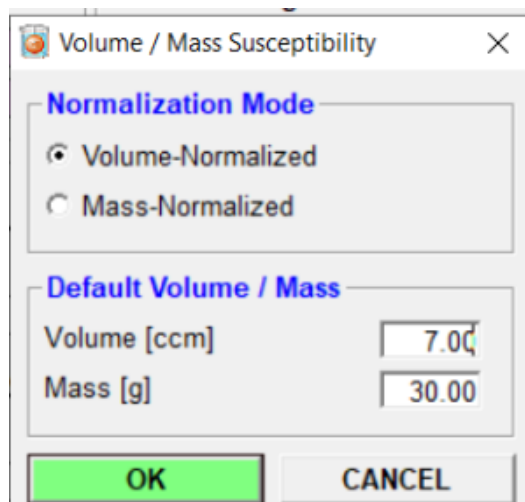

Figure 12: Volume and Mass Susceptibility Window
10. Select **Settings: Volume/Mass Susceptibility** to input a sample volume and select volume or mass normalization (Figure 12). Default is Volume-Normalized. IODP cubes without the corners (aka J-cubes) have a volume of approximately 7 cc. Cubes cut on the rock saw are approximately 8 cc. Cylinders (minicores) are 10 cc. Select **OK** when done.